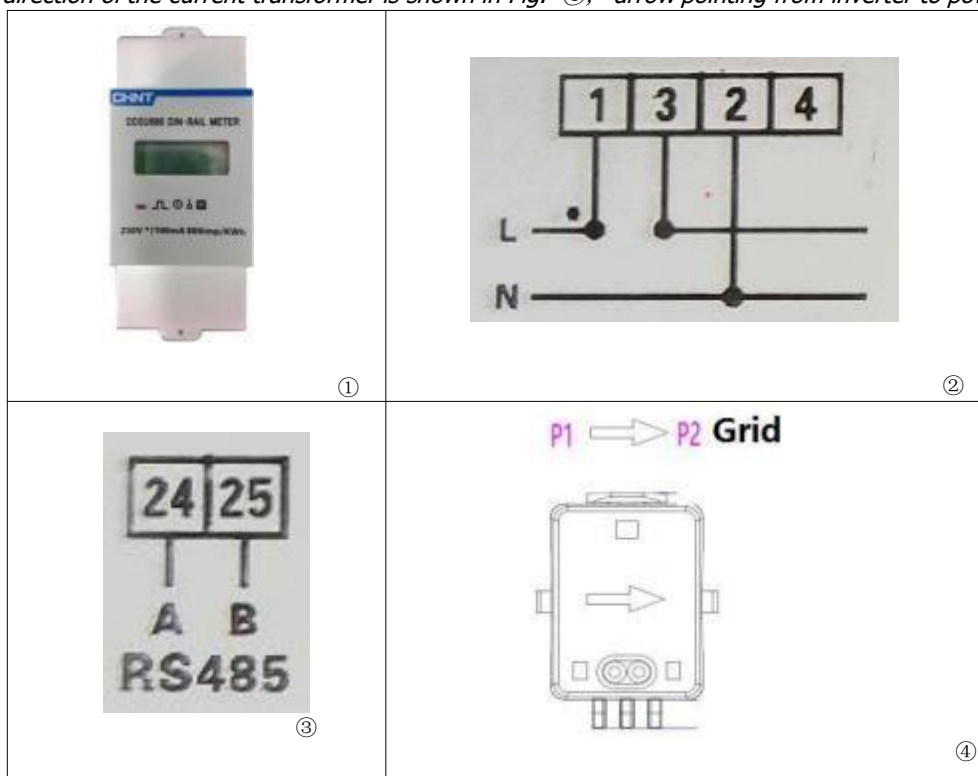

Figure 18 : Electric meter
METER crystal slot interface is used for meter communication, and the meter is shown in Figure18. ①. PIN1 and PIN2 correspond to 24 and 25, as shown in Figure18. ③. The connection mode is shown in Figure18.②, and 1 and 2 of the electric meter are connected to the inverter's L and N respectively, 3 and 4 of the electric meter are connected to the grid's L and N respectively. The connection and use of smart meters not only require electrical connections, but also the input of communication addresses on the screen (The specific operations on the screen please refer to 6.3.1>5.Zero Export to Grid>Meter Address).